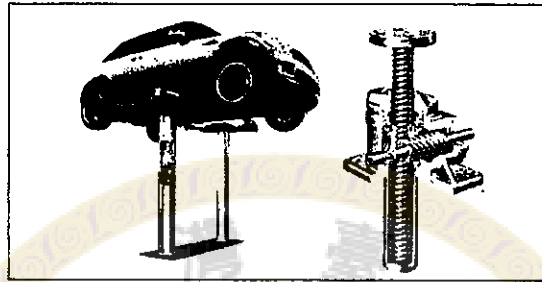

Fig. 1 : Car lift and power screw
1. Two power screws are parallel to each other and used to lift a car with a mass of  $M$ , as shown in Fig 1. The Power screw possesses the following dimensional parameters